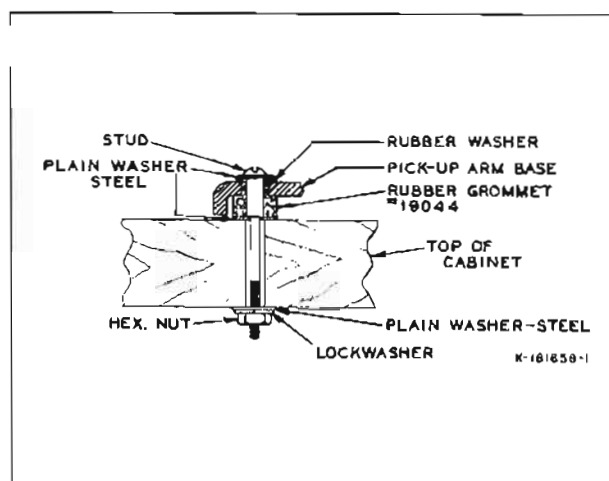

Figure 12—Pickup arm mounting details.
37. The pickup arm should be parallel to the record face and is so adjusted at the factory. Should this at any time not be the case, proceed as follows: Determine the amount of deviation from the parallel. Then disconnect the pickup leads from the terminal board and remove the pickup cable from the clamp above the terminal board. Remove the pickup arm assembly from the cabinet top. Remove the two machine screws ("A", figure 13). Pull out the two pins and remove the spacers at the pivot. Lift the pickup arm from the base casting. This exposes the upper fulcrum screw (see figure 13). Loosen the locknuts on both upper and lower fulcrum screws and adjust the screws to raise or lower the pivot casting as required. A complete turn of the screw produces a vertical motion of  $\frac{1}{32}$  inch. Retighten the locknuts so that the pivot casting does not bind and there is no side or end play in the bearings. Install the arm and cable in their former positions (see figure 12).